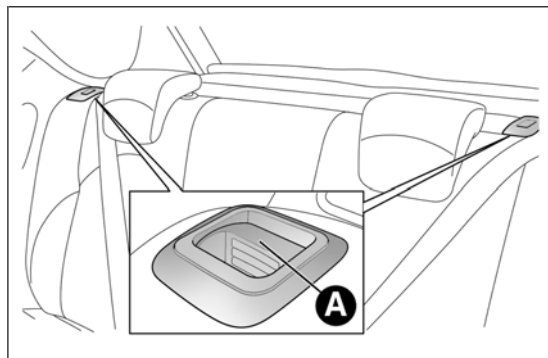

fig. 65
- ❑ lift the backrest retaining levers A fig. 65 and fold the desired cushion forwards (a red band indicates that lever A is raised).
Raise the previously folded backrest until you hear the click of the locking mechanism, visually checking that the red band on lever A fig. 65 has disappeared. The red band indicates that the backrest is not secured.